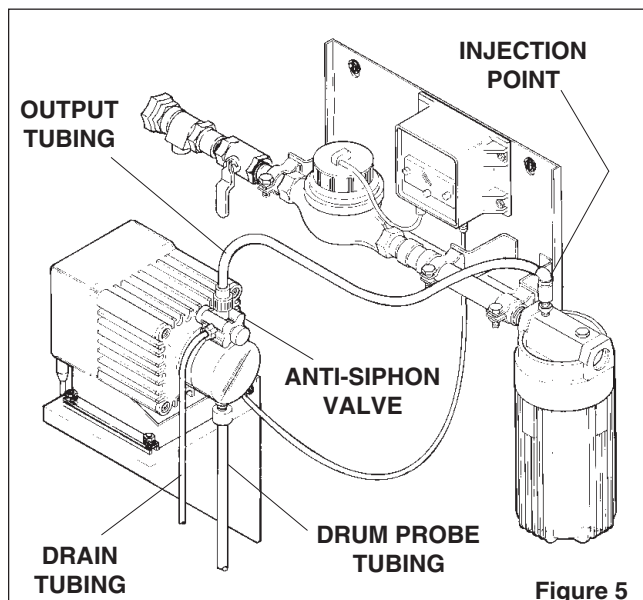

Figure 5
- Using the drum probe, 1/2" (12.7mm) tubing and fittings provided, plumb the drum probe to the bottom connector on the pump head, *refer to Figure 5.*